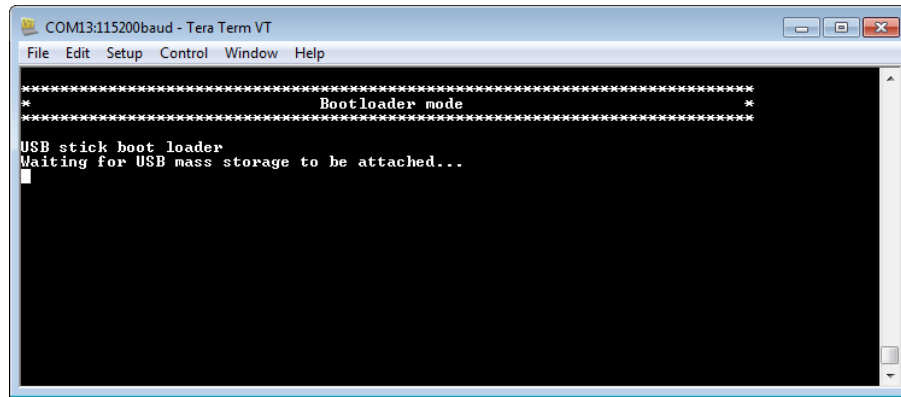

Figure 3. Bootloader mode
- Run in bootloader mode: The code checks, just after the reset, for the SW2 switch (TWR-K70F120) pressed. When is pressed the bootloader will run showing the message in figure 3 in the terminal. This example uses the UART port of the TWR-K70 connected to the TWR-SER with a USB2SER connected.
1. The message in the figure 3 indicates the device is in bootloader mode waiting for an attached USB MSD device.